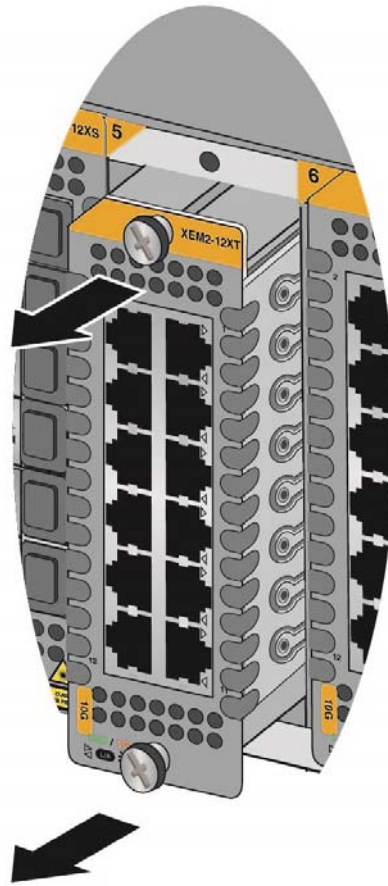

Figure 119. Disconnecting an Ethernet Line Card from the Chassis
5. Carefully pull on the screws on the faceplate to disconnect the line card from the connector on the backplane in the chassis. Refer to Figure 119 on page 164.